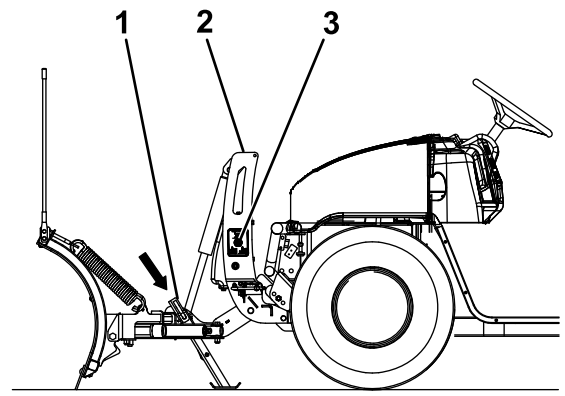

Figure 21
3. Pull the kickstand spring pin outward and lower the kickstand, then release the spring pin to secure it (Figure 21).